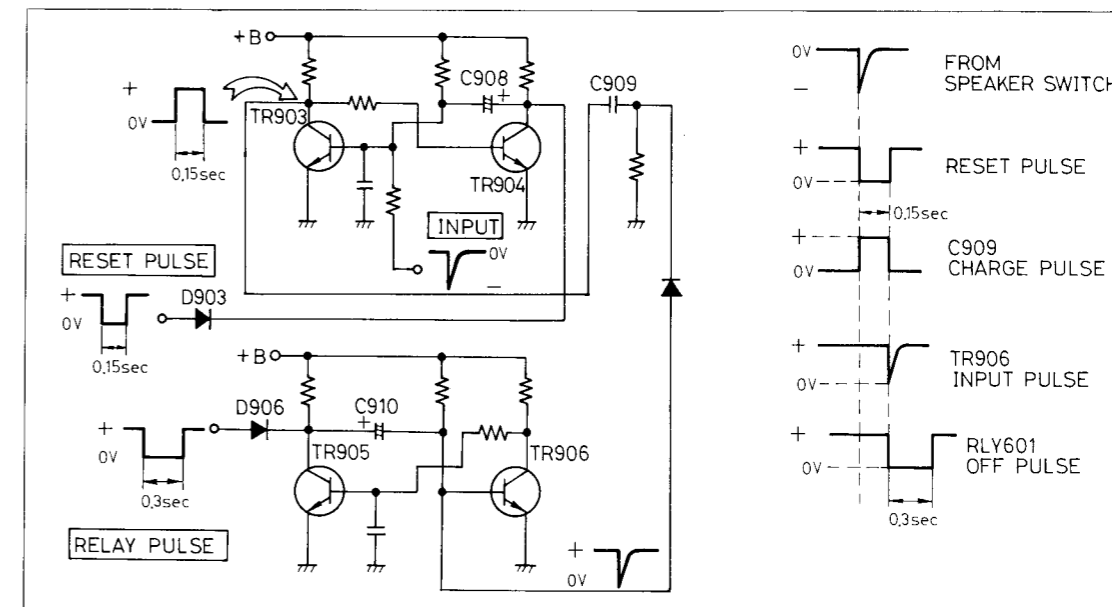

Fig. 6
In this instance, as explained in item 4, a negative pulse is generated from the trigger-pulse-generation circuitry. This pulse is applied to the mono-stable multivibrator shown in figure 6. TR903 of this circuitry is usually maintained in the "on" condition, and TR904 in the "off" condition. TR903 becomes off only at the instant when a negative pulse is applied to its base, and positive voltage appears at the collector. C909 is charged by this voltage, and, at the same time, TR904 becomes on. When TR904 becomes on, the collector becomes ground potential, and, in the same way as explained in item 5, this circuitry also returns to the "off" condition after about 0.15 second. In this way, the TR904 collector and the impedance detection circuitry are connected by way of D903. During the time that the TR904 collector is ground potential, D903 becomes forward biased, and, therefore, the comparator function is simultaneously reset when TR902 of the tap-selection relay-drive circuitry becomes off. In addition, the collector potential of TR903 also returns to ground potential after about 0.3 second. At this time, the charge until now applied to C909 is discharged, and the negative pulse here generated is applied to the base of TR906. Then TR906 becomes off, and, as explained in item 5, the collector of TR905 becomes ground potential, and the negative pulse turns off the TR907 muting-relay-drive transistor for about 0.3 second. During this interval, the operation of the speaker DC resistance-detection circuitry is as already explained in items 1, 2 and 3. Note that, as shown in figure 6, time delays occur in each of the pulses.